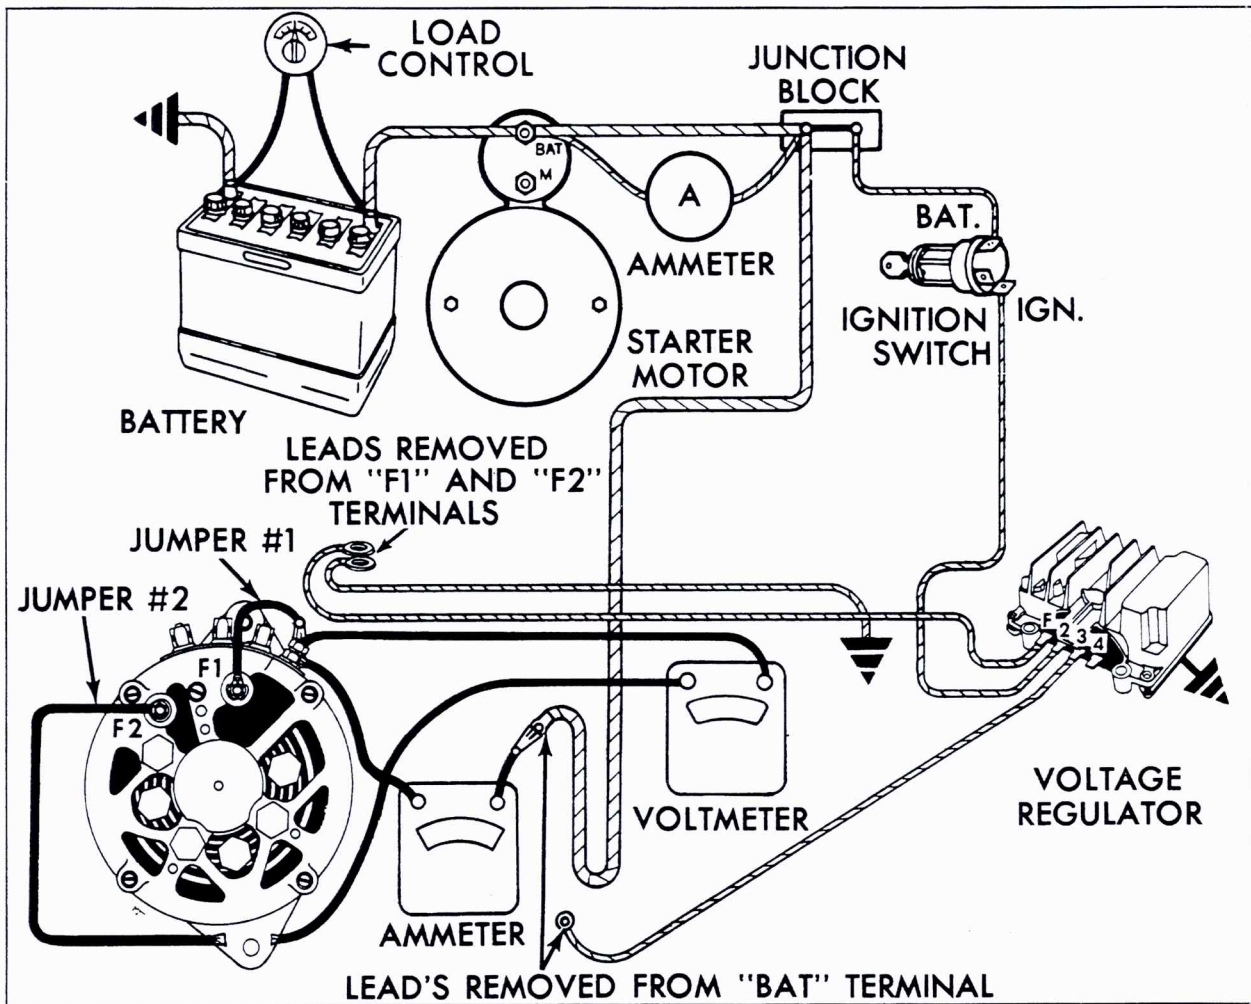

Fig. 6-35 Generator Output Test
1. Connect an ammeter in the circuit at the generator "BAT" terminal, Fig. 6-35.
2. Connect a voltmeter from "BAT" terminal of generator to ground, Fig. 6-35.